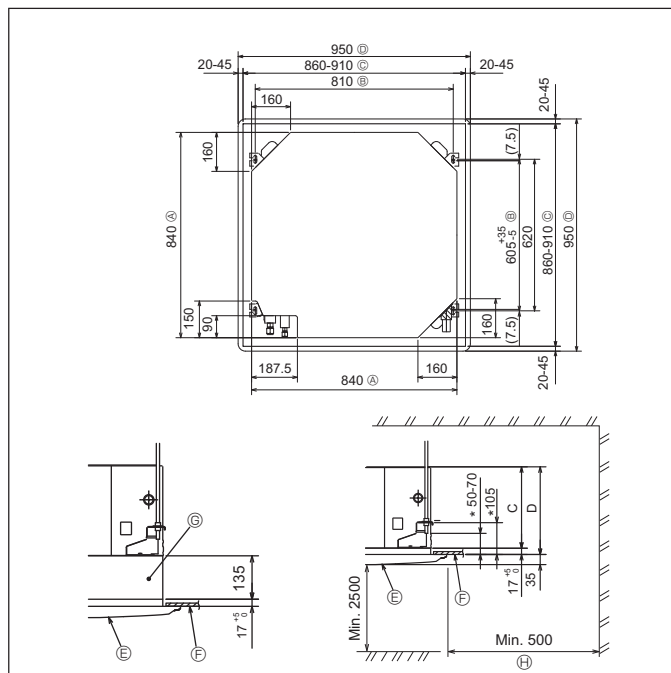

Fig. 2-2
2.2. Ceiling openings and suspension bolt installation locations (Fig. 2-2)
- The dimensions of ceiling opening can be regulated within the range shown in Fig. 2-2; so center the main unit against the opening of ceiling, ensuring that the respective opposite sides on all sides of the clearance between them becomes identical.